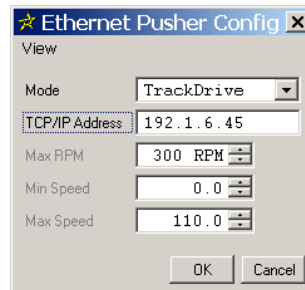

Figure 10-9. Ethernet Pusher Config
- STEP 3:** Set the remaining parameters on the *Ethernet Pusher Config* dialog per the instructions in the technical manual for the *TrackDrive*. The *Ethernet Pusher Config* dialog shown in Figure 10-9 contains typical settings. Click **OK**.